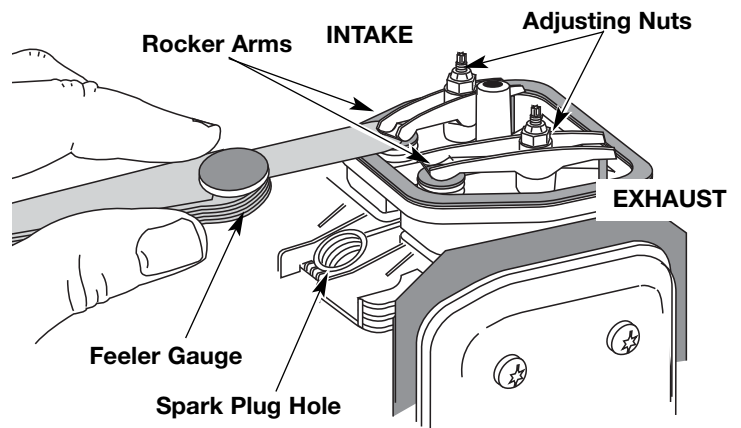

Fig. 32
- The piston is at the top of its travel while looking in the spark plug hole (Fig. 32).
7. Slide the feeler gauge between the rocker arm and the valve return spring. Measure the clearance between the valve stem and rocker arm (Fig. 32). Measure both the intake and exhaust valves.
The recommended clearance for both intake and exhaust is .003 – .006 in. (.076 – 0.152 mm). Use a standard automotive .005 in. (0.127 mm) feeler gauge. The feeler gauge should slide between the rocker arm and valve stem with a slight amount of resistance, without binding. See Figures 32 and 33.